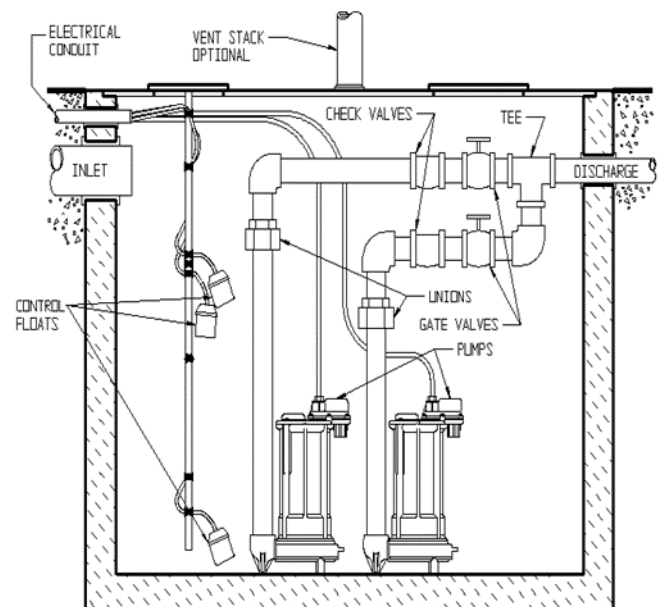

Fig. 3 – Typical Installation Duplex System
- B. **Duplex (Two Pump) Systems (see Fig. 3):** Set both pumps in place in the bottom of the basin. The duplex control used will include 3 or 4 floats that will either be tethered to one of the discharge pipes or to an independent rod or bracket. Follow the instructions provided with your duplex control device. Each float must be **free to move throughout its travel** and not contacting the pump body, piping, or other objects. Connect an individual discharge pipe to each pump.